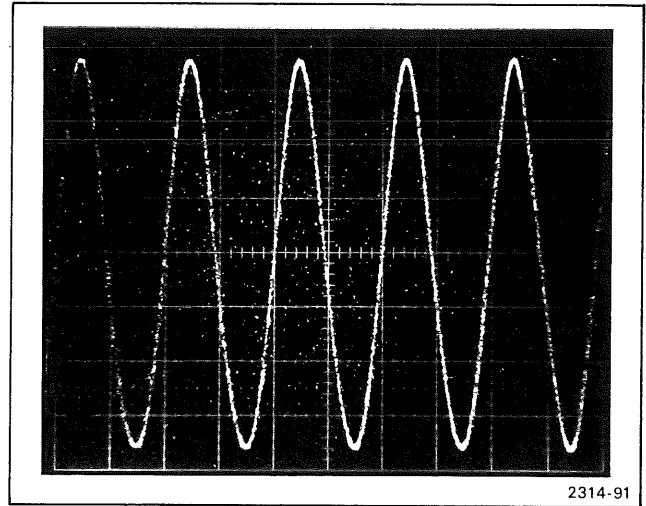

Figure 5-3. Typical 7104 Photographic Writing Rate.
- o. **CHECK**—Photograph should show the 1 gigahertz sine-wave clearly (see Fig. 5-3 for typical photograph).